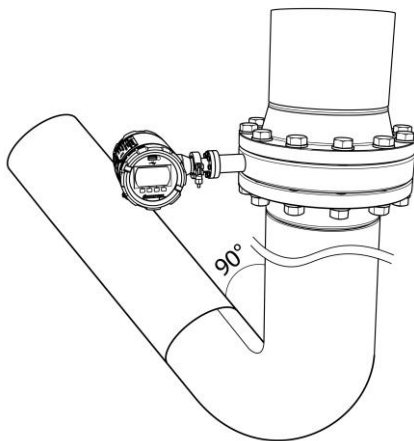

Figure 5-2: Vertical pipe mounting example
- SDM must be placed in a verticale pipe at an straight (90°) angle in relation to the connected horizontal pipe (Figure 5-2).